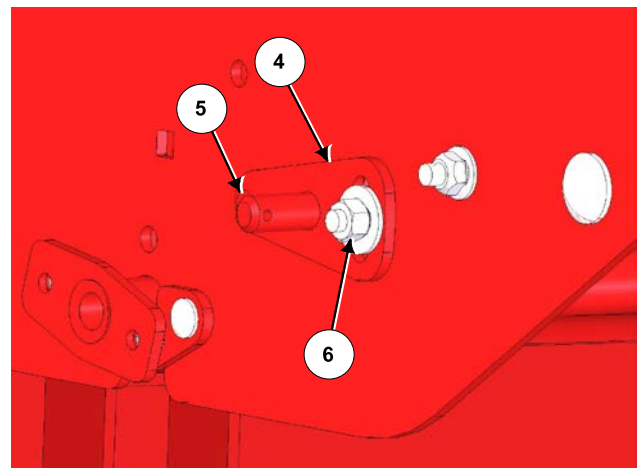

Figure 10: Install the Door Latch Mount
10. Install the door latch mount (4) onto the front tub wall, see *Figure 10*.
- Place the pin (5) of the mount into the hole in the tub wall.
- Place a 1/2" x 1-1/4" carriage bolt (6) through the tub wall and the latch mount.
- Place a 1/2" flat washer and stover nut (6) on the outside of the latch mount.